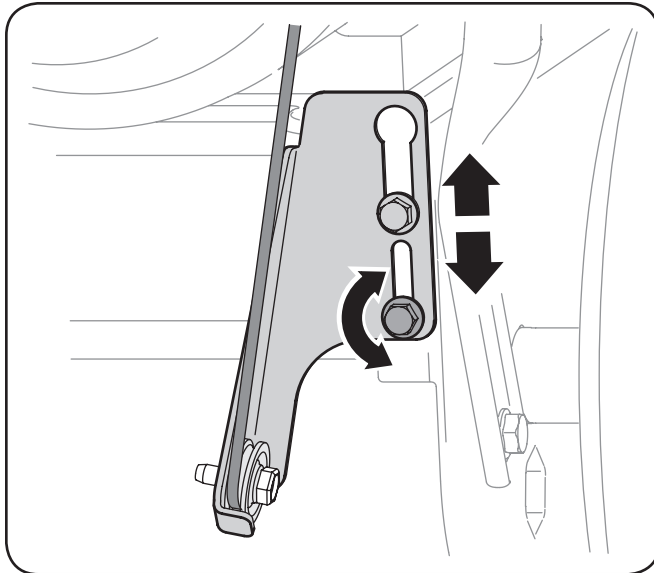

Figure 6-3
1. Loosen the lower hex screw on the drive cable bracket. See Fig. 6-3.